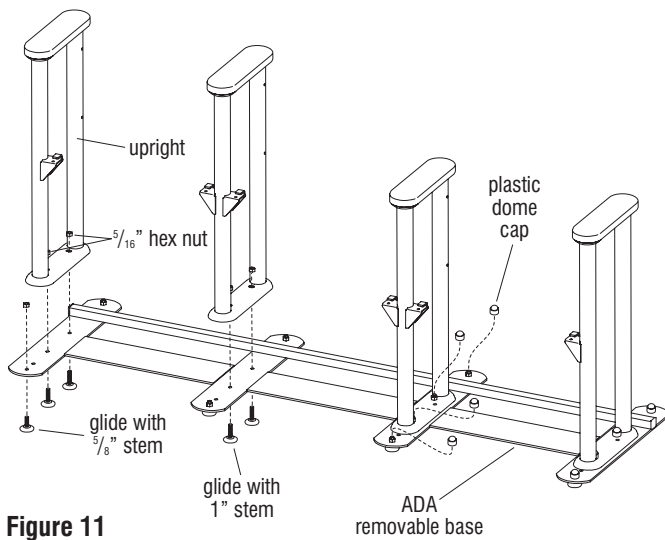

Figure 11
1. Locate the glides that attach below the base strips. Glides with 5/8" long stems must be installed at the end of the foot while the glides with 1" long stems install in the middle of the base strips. Insert the appropriate glides up through the ADA base and the mounting holes in the foot of each upright. Secure the components together with 5/16" hex nuts on the glides (Figure 11).
2. Place a plastic dome cap on top of each glide stem above the installed 5/16" hex nut (Figure 11).